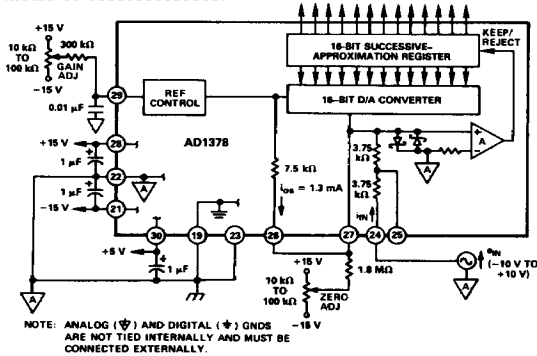

Figure 11. Analog and Power Connections for Bipolar  $-10$  V to  $+10$  V Input Range
**Short Cycle Input:** A Short Cycle Input, Pin 32, permits the timing cycle shown in Figure 11 to be terminated after any number of desired bits has been converted, permitting somewhat shorter conversion times in applications not requiring full 16-bit resolution. When 10-bit resolution is desired, Pin 32 is connected to Bit 11 output Pin 11. The conversion cycle then terminates and the STATUS flag resets after the Bit 10 decision (timing diagram of Figure 5). Short cycle connections and associated 8-, 10-, 12-, 13-, 14- and 15-bit conversion times are summarized in Table I, for a 933 kHz clock.